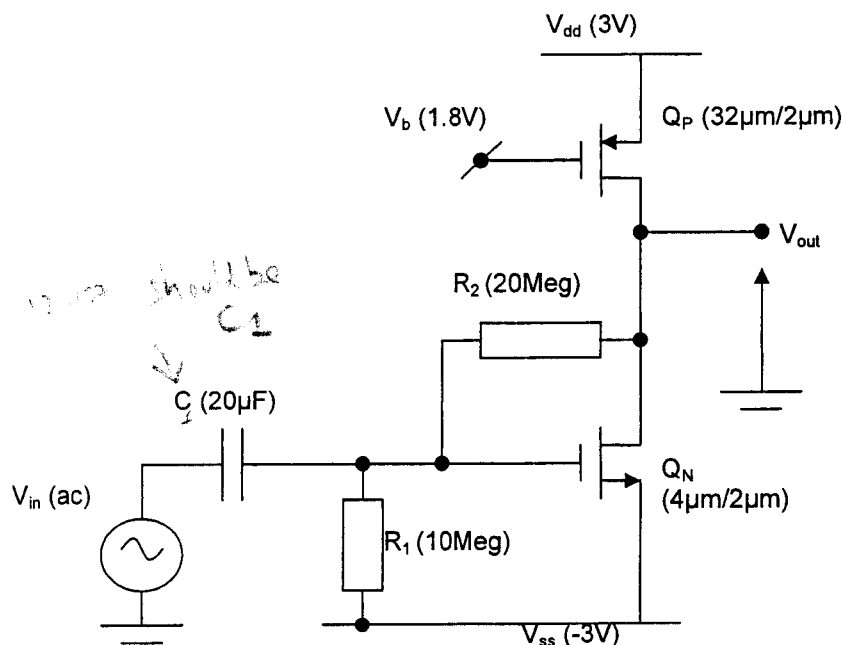

Figure 1.1
1. (a) The circuit shown in Figure 1.1 is a single-stage inverting voltage amplifier using two CMOS FETs. Write a simple SPICE programme which will compute a small signal gain and phase frequency response analysis of the circuit over the frequency range 10 kHz to 10 MHz. The .OPTIONS card and the transistor model process parameters Q_P and Q_N are already built into the SPICE Library.